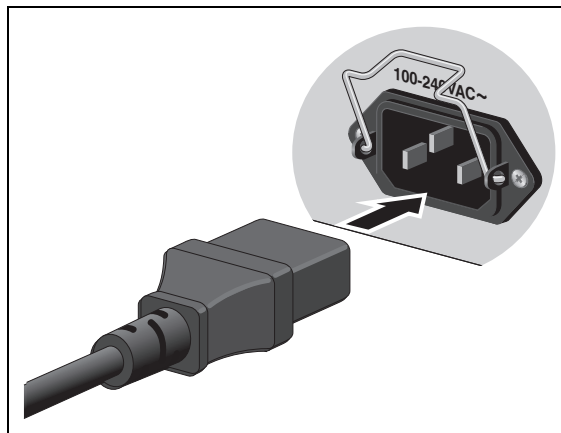

Figure 32. Connecting the AC Power Cord
2. Plug the power cord into the AC power connector on the rear panel of the unit, as shown in Figure 32. Lower the power cord retaining clip to secure the power cord to the unit.